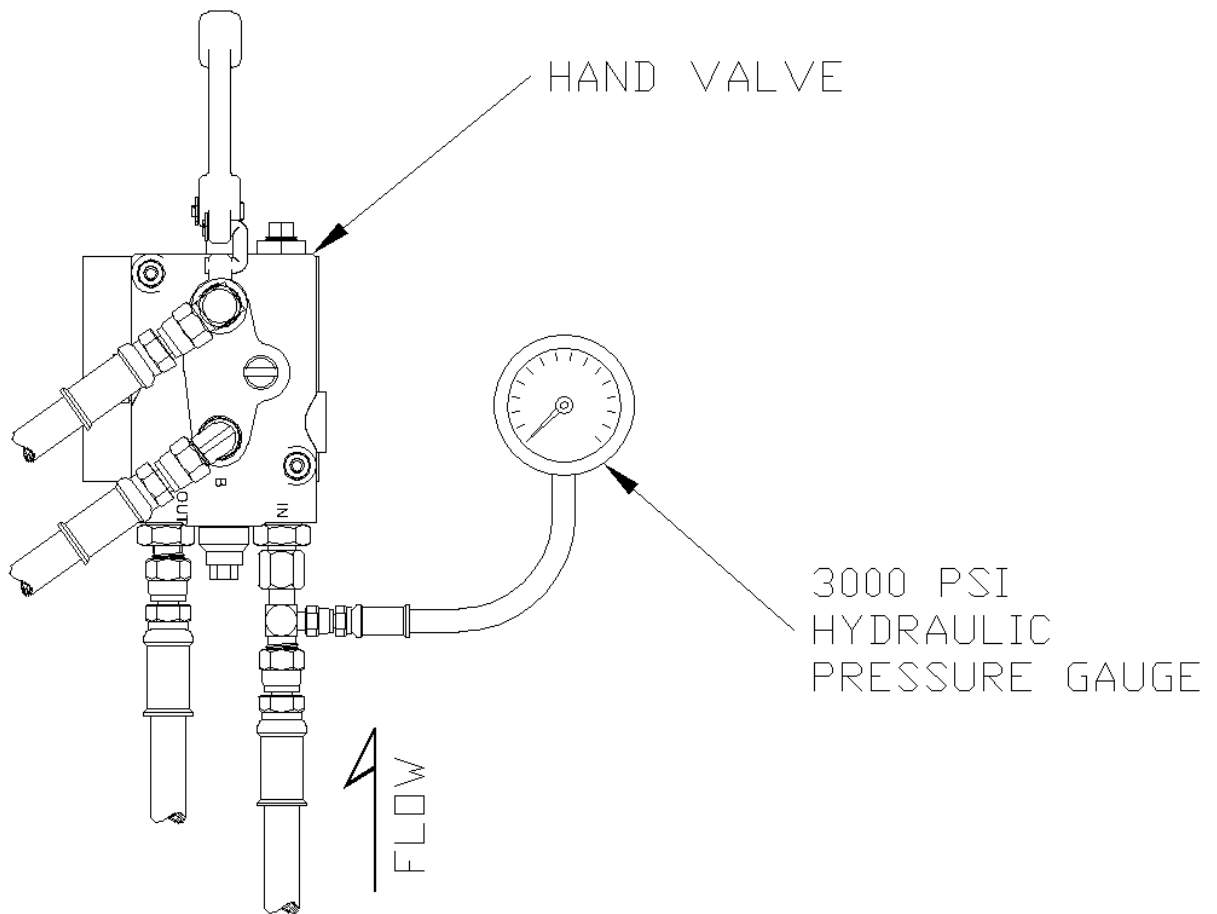

figure I-5
7. Install the 3000 psi hydraulic pressure gauge with the necessary adapter in the hydraulic line connected to the "IN" port of the hand valve as shown in figure I-5. *If installing dual lifters, install the hydraulic gauge at either one of the hand valves.*
- f) *For dual lifters, install the hydraulic pressure gauge in the “IN” port of the other hand valve as shown in figure I-5, start the truck’s engine, engage the hydraulic system, and repeat step 10.*